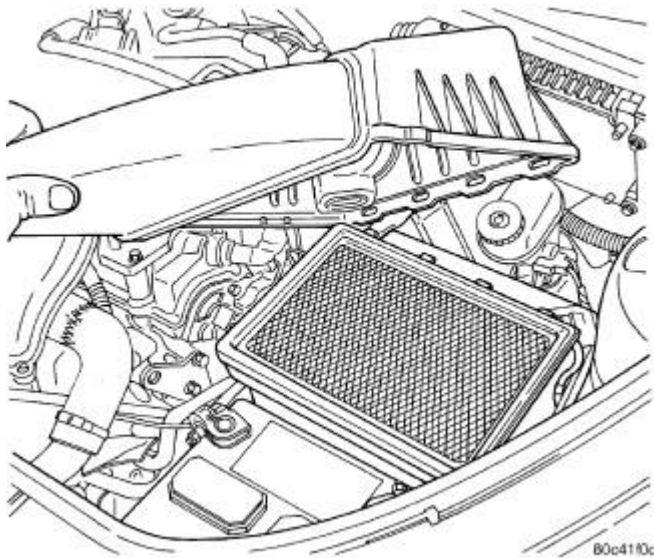

Fig. 44: Air Cleaner Cover - Typical
1. Unfasten clasps on sides of air cleaner housing cover. Lift cover off air cleaner housing. See **Fig. 44** .